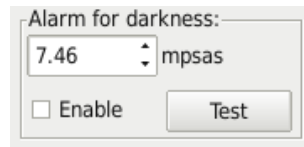

Figure 7.35: Log Continuously Alarm for darkness
**Alarm for darkness** When the darkness is over the threshold amount, an audio file can be enabled to play (Fig. 7.35) . The Test button plays this file for test purposes. The audio file is named `alarmsound.wav` and is located in the the Data Directory (which can be identified from the main page **View**→**Directories**).